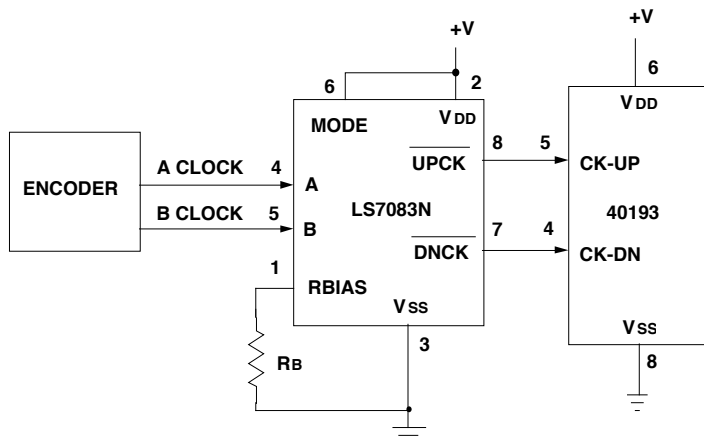

FIGURE 6A. TYPICAL APPLICATION FOR LS7083N in x4 MODE
- Interface incremental encoders to Up / Down Counters (See Figure 6A and Figure 6B)